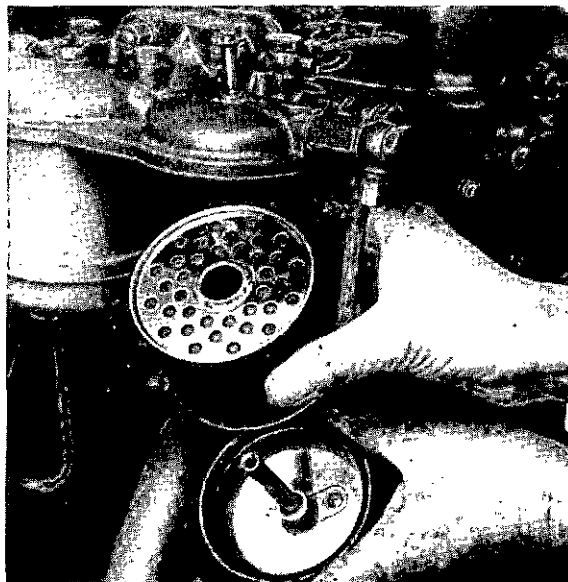

Fig. 21 To renew a fuel filter element
3. Lower the filter bottom cover (see fig. 21).